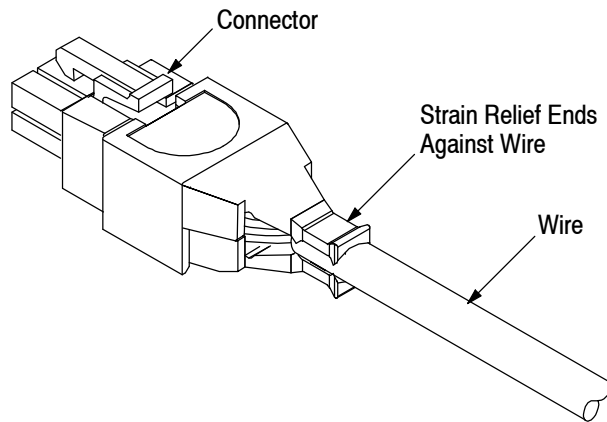

Figure 4
5. When the ends have been fully rotated to the wire, the strain relief latches will make an audible and tactile “click” that ensures full rotation of the ends to the wire. See Figure 4.